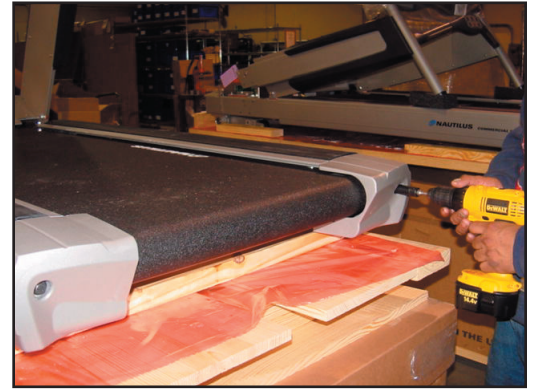

Figure 2.1
- 2.1 Remove the left and right end caps (see Figure 2.1 and 2.2).